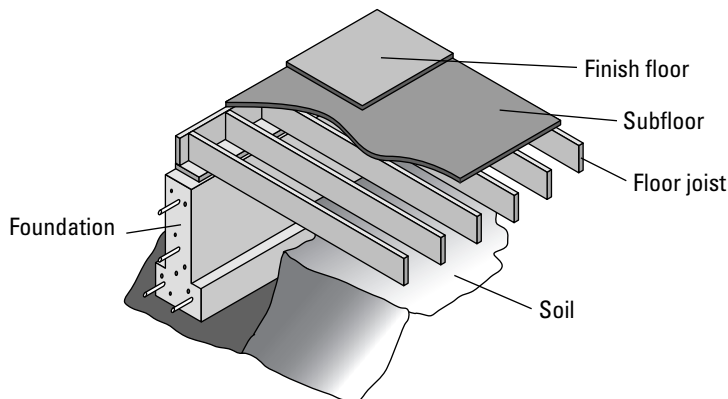

Figure 4-2:
- ✔ **Solid concrete (see Figure 4-2):** Solid concrete foundations are made of a mixture of cement, sand, rock or gravel, and water. When poured into forms and left to dry, this pancake-batter-like blend becomes unbelievably rigid. Steel reinforcing bars are used within the concrete to create added strength. Because of its rigidity, concrete can crack when the earth moves, which can lead to foundation shifting and cracks that can undermine the home's structural integrity. Water leaks also can result.